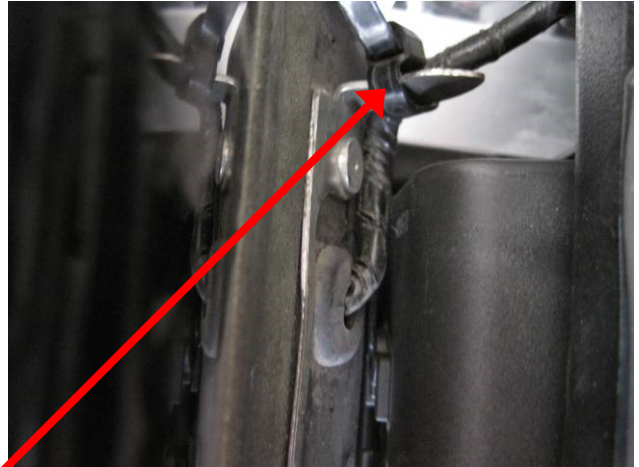

Fig.8
- Disconnect the removable cable tie attached to the rear fender wire harness and discard.(Fig.8)